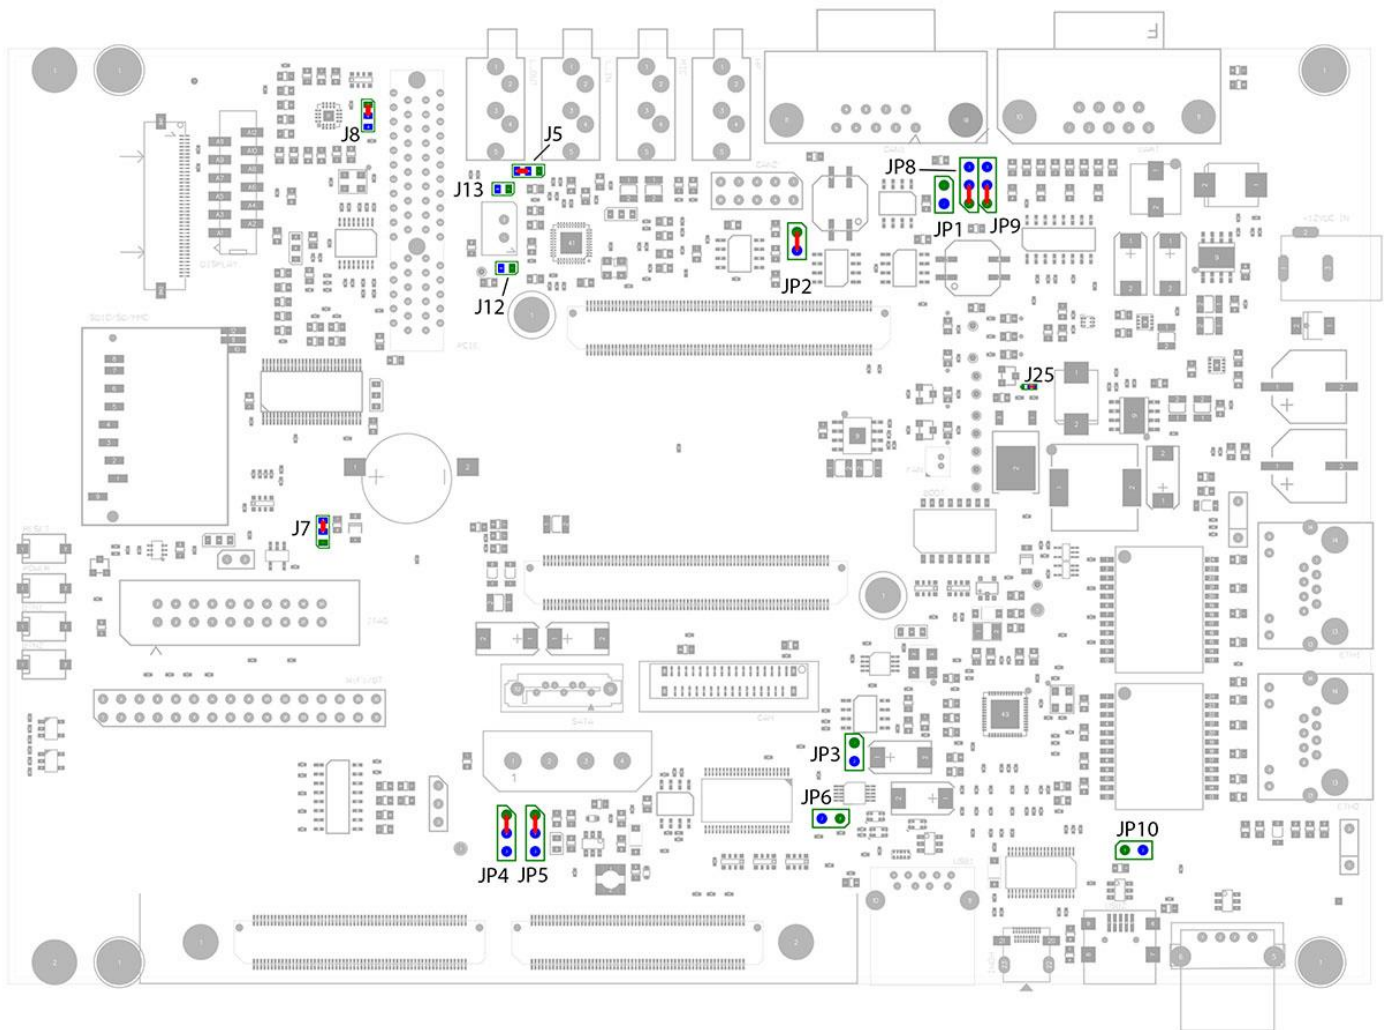

Figure 9. Jumper Locations and Default Settings
The phyCORE-AM57x Carrier Board is designed with various removable jumpers (JP) and several solder jumpers (J). These jumpers provide the user flexibility in routing a number of signals as well as configuring various control signals. Table 19 lists the solderless jumpers, their default positions, and the function they serve in each position. Table 20 lists the default positions and functions of the solder jumpers. For a detailed description of each jumper, reference the applicable chapter listed in the tables. Figure 9 provides a detailed view of the phyCORE-AM57x Carrier Board jumpers and their default settings.